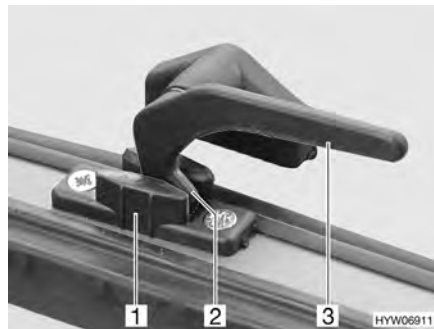

Fig. 54 Catch lever in the "continuous ventilation" position
- "Continuous ventilation" (Fig. 54)
- Turn the catch lever (Fig. 54,3) a quarter turn towards the centre of the window.
- Return the catch lever to its initial position. The locking catch (Fig. 54,2) has to be moved into the recess of window catch (Fig. 54,1).